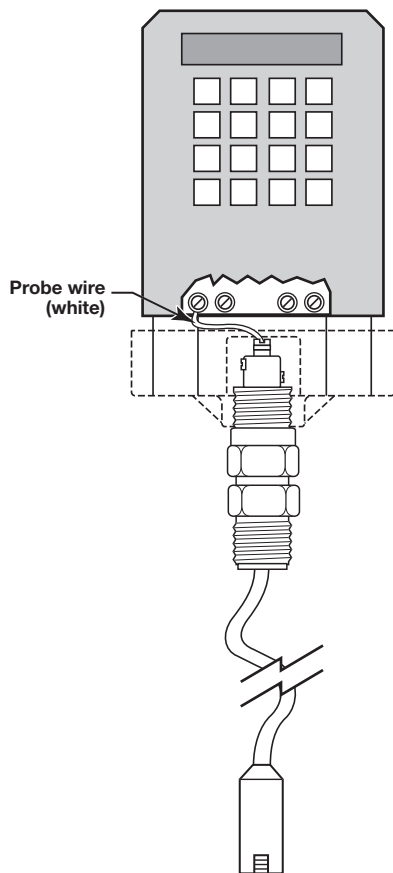

Figure 3
1. Remove mylar housing insulator located over the clamp. Refer to Figure 3.
2. Attach weight, if used, to probe end. Refer to Figure 3.
1. Remove mylar housing insulator located over the clamp. Refer to Figure 3 on page 4.